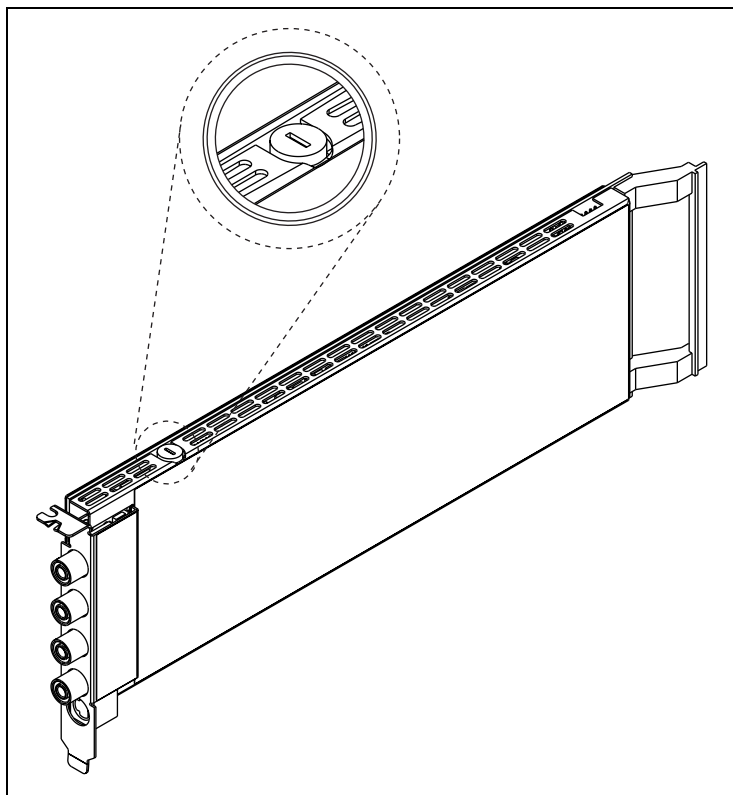

Figure 22. Locating the Fuse on the NI PCI-4070
3. Hold the NI PCI-4070 at the angle shown in Figure 22, and locate the fuse holder.